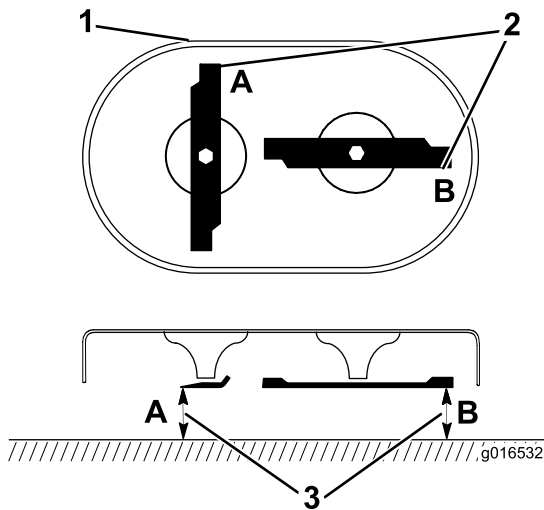

Figure 39
1. Rotate the blades to the position shown in Figure 39.